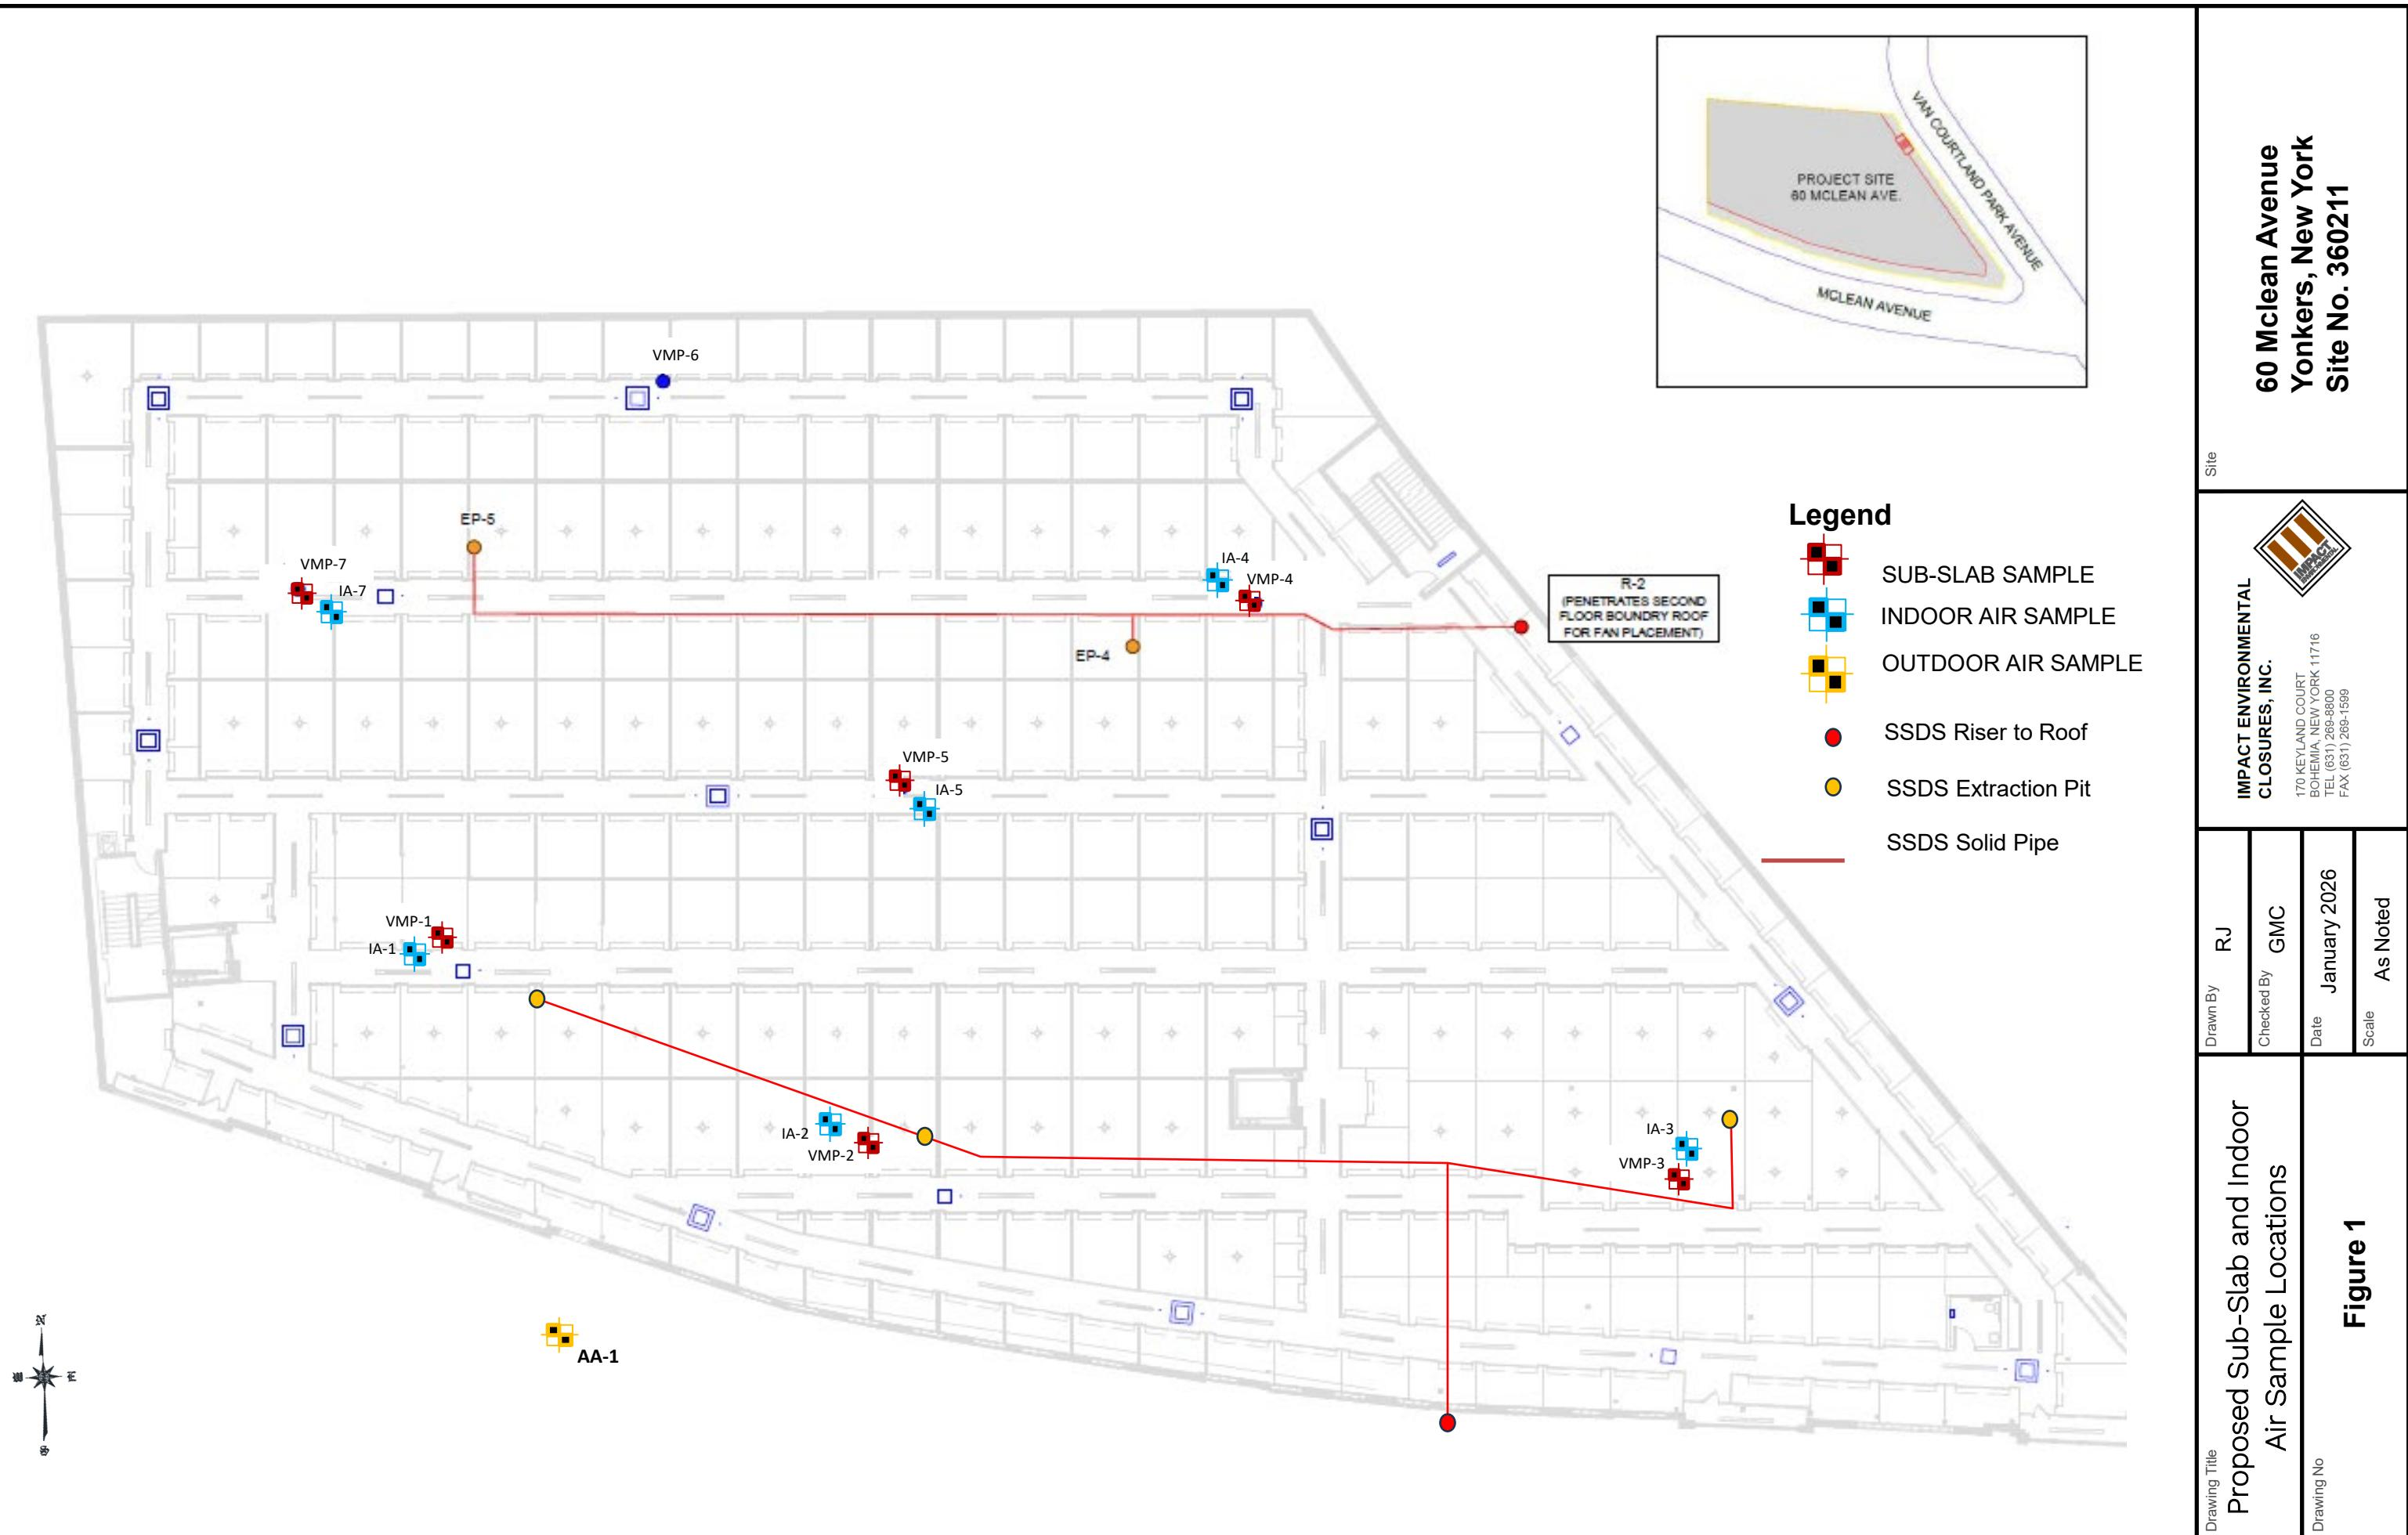

Figure 1
- A total of six (6) sub-slab soil vapor points, identified as VMP-1 through VMP-5, and VMP-7. Samples will be collected from existing vapor monitoring point installed through the building slab during construction and collocated with an indoor air sample. One (1) ambient (outdoor) air sample will be collected. A total of 13 samples will be collected, as illustrated in **Figure 1**.